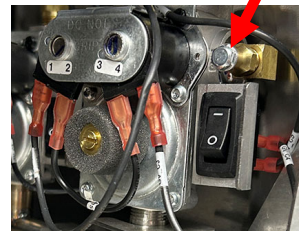

Figure 27
- 28) Remove the outlet pressure test port plug screw (see Figure 27).